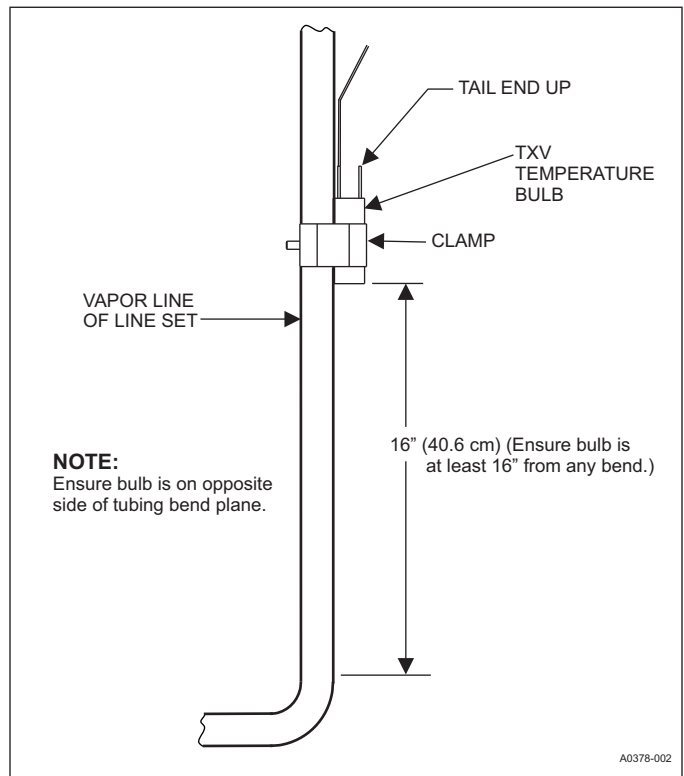

FIGURE 13: Vertical Temperature Bulb Orientation
- If bulb installation is made on a vertical run, locate the bulb at least 16" (40.6 cm) from any bend, and on the tubing sides opposite the plane of the bend. Position the bulb with the tail of the bulb at the top, so that the bulb acts as a reservoir. See Figure 13.